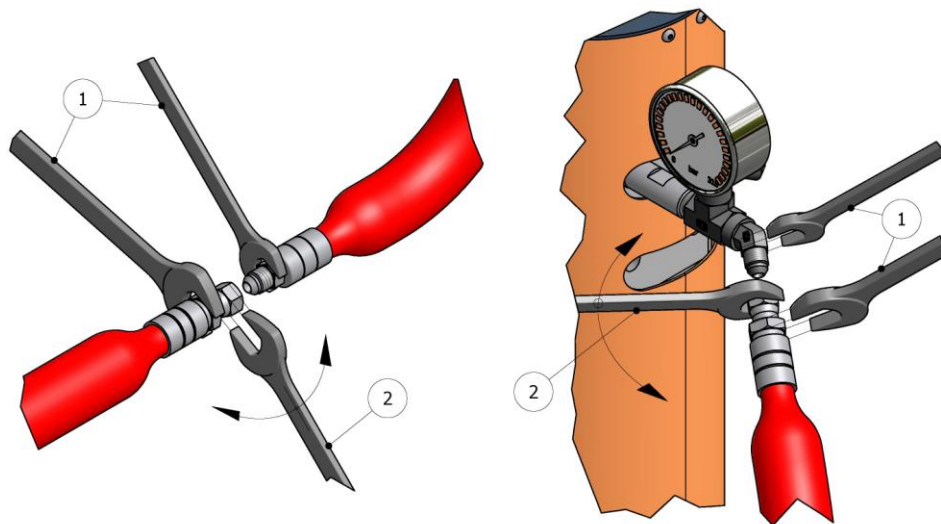

Figure 3. Method of union of the Hoses
WARNING! To join the hoses together or to connect them to the heaters or the gun, use two spanners to hold the parts to be joined (1) and a third spanner to tighten or loosen the connecting nut (2) as shown in the illustrations in Figure 3. The connections must be tightened to a torque of 20 Nm.